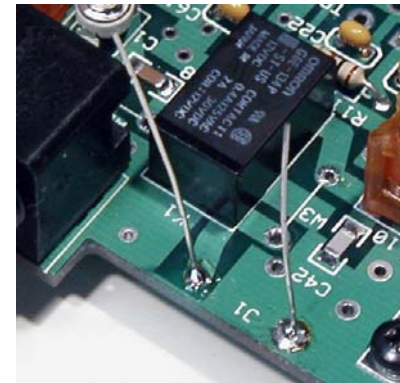

Figure 38. J1 Solder Pads on RF PCB.
- Solder the two clipped leads you saved when you installed D5 (Page 28) to the J1 solder pads on the RF PCB. The J1 pads are near K1 (see Figure 38).